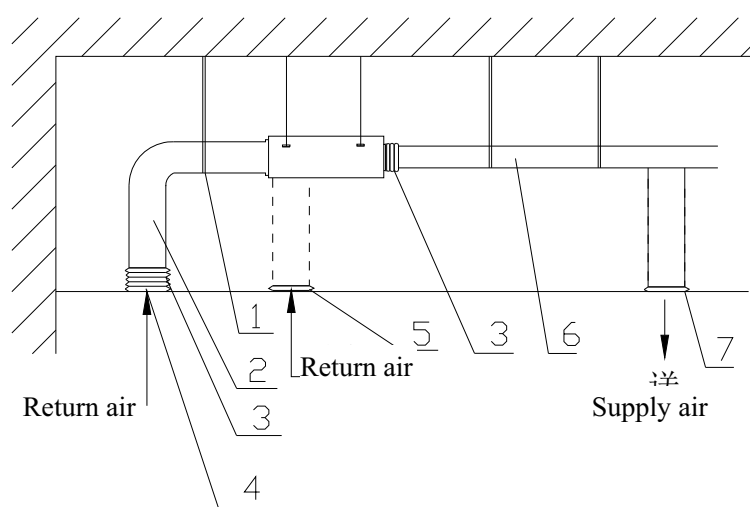

Figure 1-1-11
- ◆ Installation of rectangular air duct, as shown in Figure 1-1-11